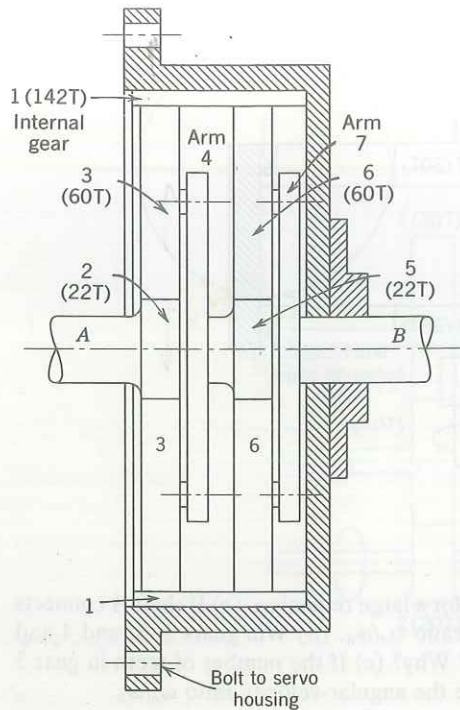

FIGURE 7.38
7.23. Figure 7.38 shows the planetary gear and power shaft assembly for an aircraft servo. If shaft A connects to the motor, determine the angular-velocity ratio ω_A/ω_B .